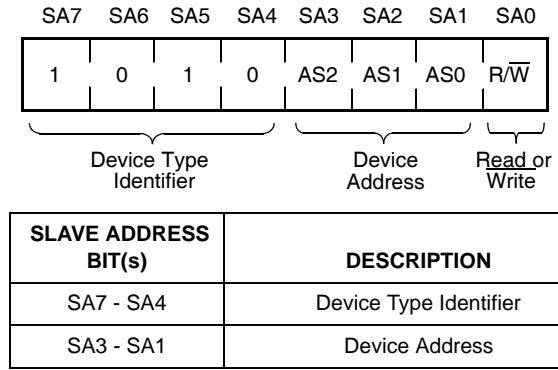

FIGURE 13. SLAVE ADDRESS (SA) FORMAT
Identifier 1010, and the Device Address bits matching the logic state of pins A2, A1, and A0. See Figure 13.
Following a START condition, the master must output a Slave Address Byte (Refer to Figure 13). This byte includes three parts:
- The LSB (SA0) is the R/W bit. This bit defines the operation to be performed on the device being addressed. When the R/W bit is “1”, then a Read operation is selected. A “0” selects a Write operation (Refer to Figure 13)